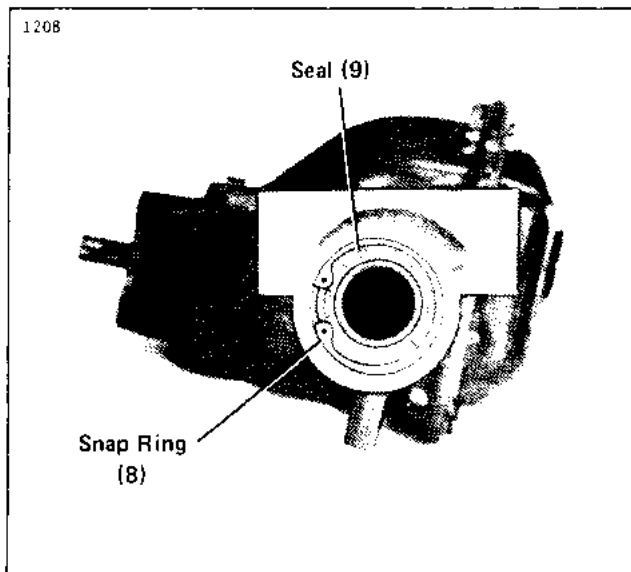

Figure 2A-12F. Snap Ring and Seal
11. To remove seal (9), first remove snap ring (8) and then pull or pry seal from housing (Figure 2A-12F).